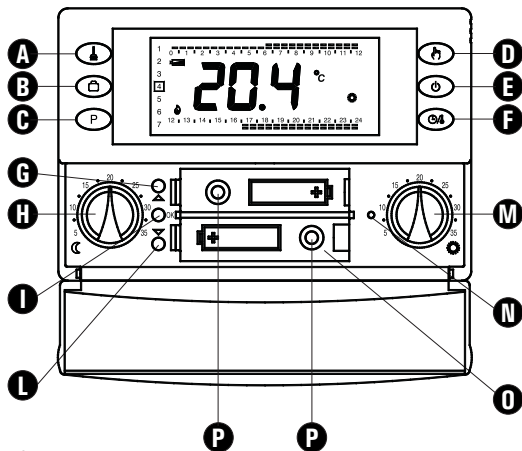

Fig. 1
When starting up for the first time open the battery lid and insert the batteries in the battery compartment **O** in Fig. 1, observing the polarities indicated. The batteries must be alkaline 1.5V type AA.
If necessary carry out a reset operation by inserting a pointed object through the hole provided (**N** in Fig. 1); **DO NOT USE NEEDLES OR TOOLS THAT COULD IRREPARABLY DAMAGE THE CHRONOSTAT.**
‘**OK**’: For programming the time and current day of the week (**I** in Fig. 1);
‘**▲**’: Forward (**G** in Fig. 1);
‘**▼**’: Back (**L** in Fig. 1);
The Comfort temperature is set by means of the '🔧' knob (M in Fig. 1) whereas the Economy temperature is set by means of the '🌡️' knob (H in Fig. 1).
5. Insert the batteries in the battery compartment (O in Fig. 1); see paragraph 'HOW TO INSERT/REPLACE THE BATTERIES'.